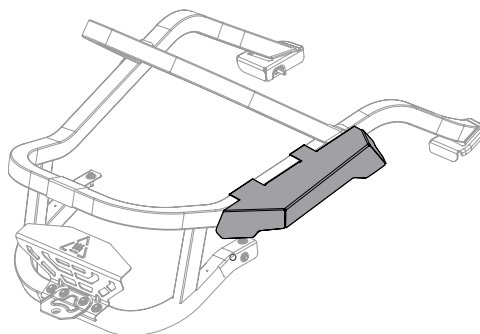

Figure 2
2. Slide the arms of the fender bracket over the upper frame just behind the upper hoop. See Figure 2.